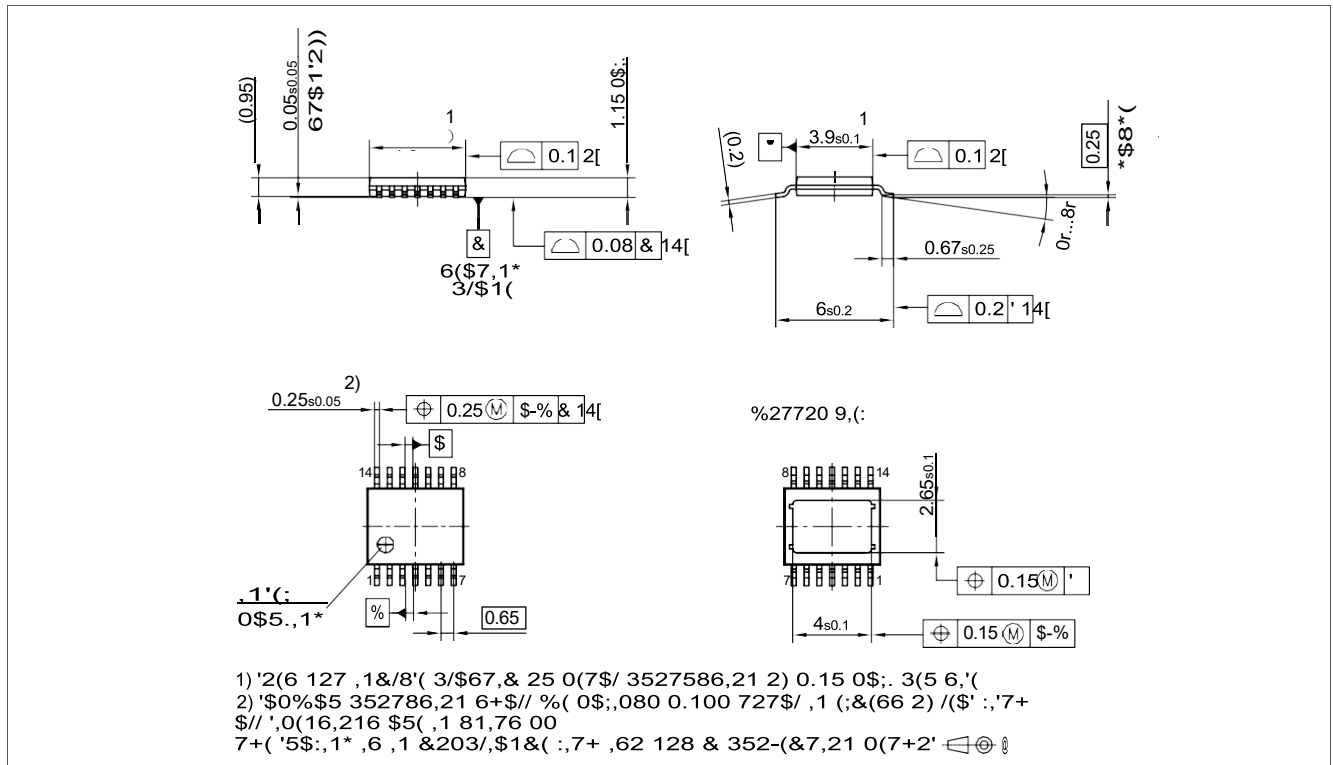
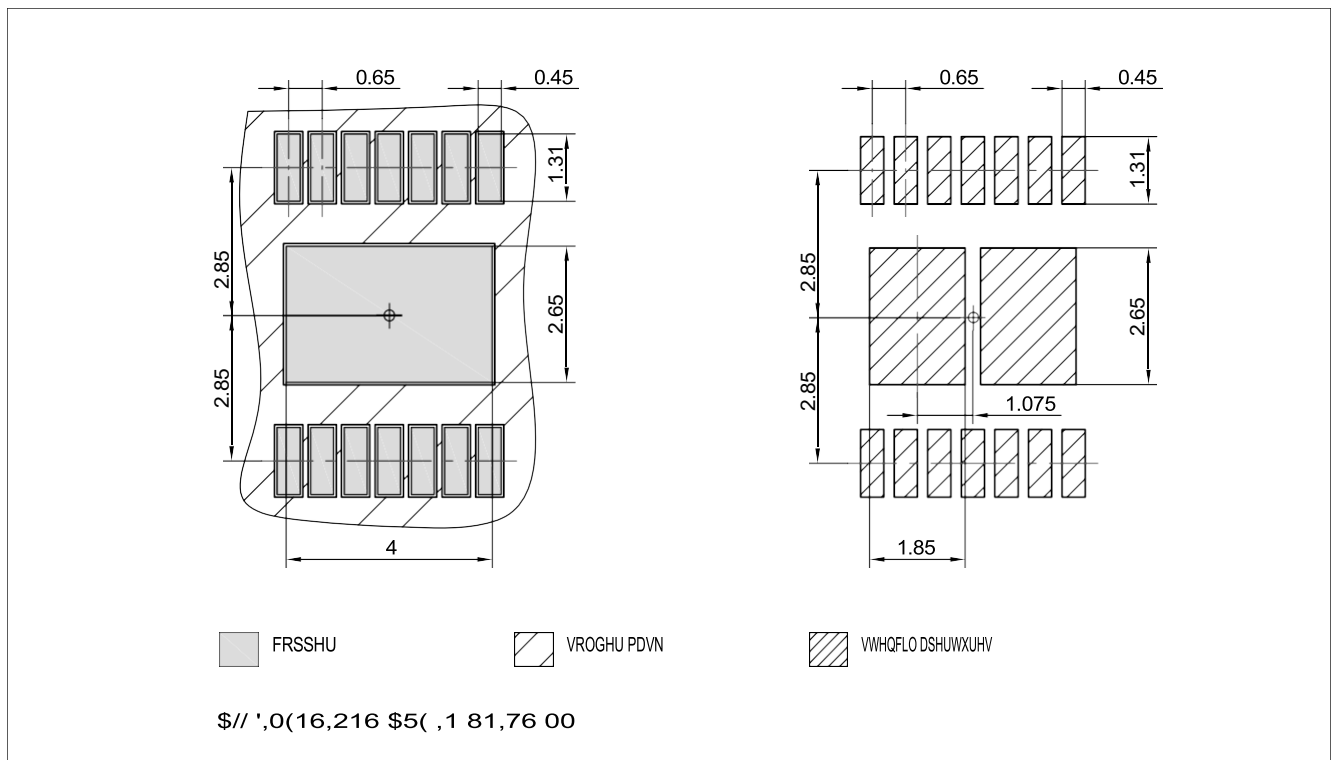

Figure 44 PG-TSDSO-14 (Thin (Slim) Dual Small Outline 14 pins) Package Outline
Figure 45 PG-TSDSO-14 (Thin (Slim) Dual Small Outline 14 pins) Package pads and stencil
1.03, 2018-10-18	<p>Chapter 9.3.1 updated (typo)</p> <p>Page 1: updated (Package PG-TSDSO-14-22 → Package PG-TSDSO-14)</p> <p>Figure 29 updated</p> <p>Figure 44 updated (PG-TSDSO-14-22 (Thin (Slim) Dual Small Outline 14 pins) Package Outline → PG-TSDSO-14 (Thin (Slim) Dual Small Outline 14 pins) Package Outline)</p> <p>Figure 45 updated (PG-TSDSO-14-22 (Thin (Slim) Dual Small Outline 14 pins) Package pads and stencil → PG-TSDSO-14 (Thin (Slim) Dual Small Outline 14 pins) Package pads and stencil)</p> <p>Table 1 updated ((Symbol: <math>I_{VS(SLEEP)}</math> → <math>I_{VS(SLEEP)_85}</math>), (Parameter: Minimum Overvoltage protection (<math>T_J = 25\text{ °C}</math>) → Minimum Overvoltage protection (<math>T_J \geq 25\text{ °C}</math>))</p> <p>P_9.6.0.6 updated (Note or Test Condition: removed unnecessary line-break)</p> <p>Chapter 7.4.1 updated chapter title (PROFET → PROFET™) Table 12 updated table title (PROFET → PROFET™) Chapter 8.6.1 updated chapter title (PROFET → PROFET™) Table 16 updated table title (PROFET → PROFET™) Chapter 9.5.1 updated chapter title (PROFET → PROFET™) Table 21 updated table title (PROFET → PROFET™)</p> <p>P_4.1.0.21, P_4.1.0.22, P_4.1.0.23, P_4.1.0.24 updated (footnote ESD standards)</p> <p>Table 1 updated (<math>R_{DS(ON)}</math> → <math>R_{DS(ON)_150}</math>), (<math>V_{DS(CLAMP)}</math> → <math>V_{DS(CLAMP)_25}</math>)</p> <p>Chapter 8.5.2 updated phrasing</p> <p>P_7.5.5.14 Table subheading "Switching Energy" added P_7.5.5.15 Table subheading "Switching Energy" added Chapter 6.4 added conditions</p> <p>Chapter 7.5 added conditions</p> <p>P_7.5.5.14 updated (Test condition: add "See Figure") P_7.5.5.15 updated (Test condition: add "See Figure") Chapter 8.7 added conditions</p> <p>Chapter 9.6 added conditions</p> <p>P_9.7.5.27 updated (Test condition: add "See Figure") P_9.7.5.29 updated (Test condition: add "See Figure") Chapter 7.3.1 typo corrected (link to Figure 19 added)</p>